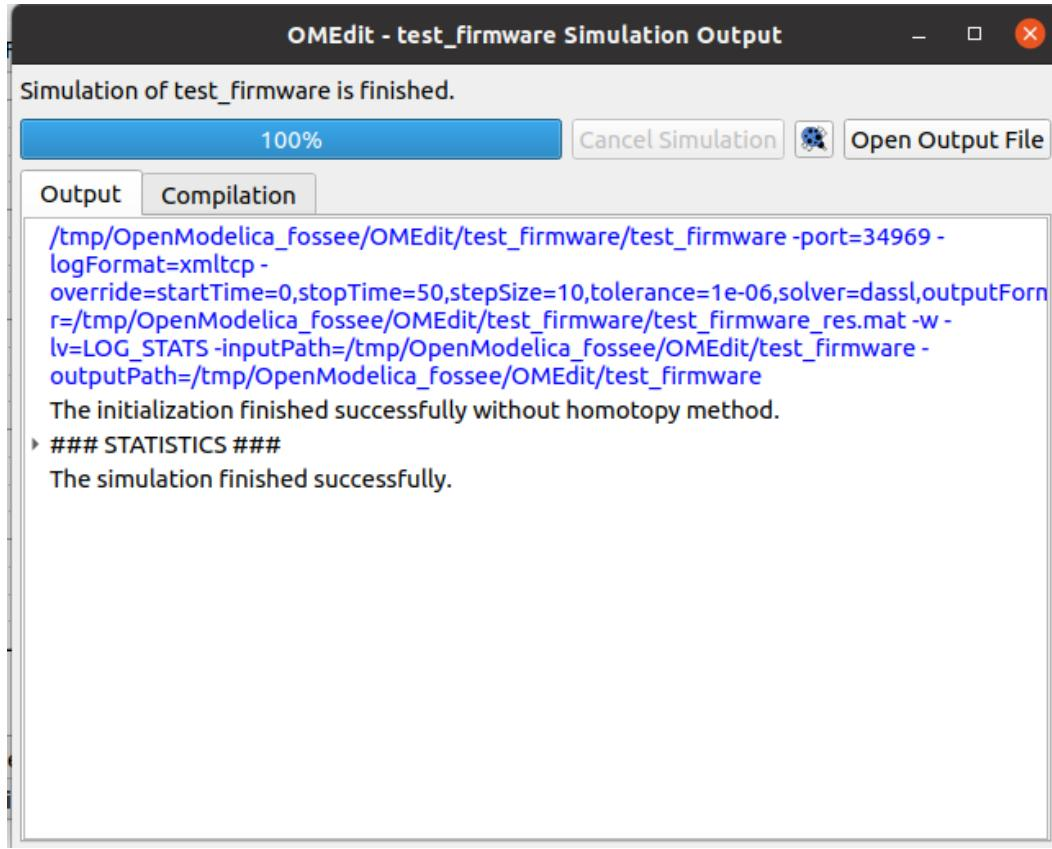

Figure 3.43: Output window of OMEdit
time specified in the model itself. As OMEdit provides an elegant user interface for simulating the models, it will open an output window the moment you click on Simulate. Fig. 3.43 shows the output window after the simulation of our model is finished. Also, we can observe that the OMEdit is now in Plotting Perspective.
As shown in Fig. 3.43, OMEdit displays the message that "The Simulation finished successfully". Had there been any error in simulating the model, we would not have received this message.
**OpenModelica Code 3.1** An OpenModelica code/model to check whether the firmware is properly installed or not. Available at Origin/tools/openmodelica/windows/test\_firmware.mo, see Footnote 2 on page 2. Locate this file inside OpenModelica-Arduino toolbox, as explained in Sec. 3.6.4. Simulate this code/-model by following the steps given in Sec. 3.6.3. If the simulation is successful, you should expect an output window in OMEdit as shown in Fig. 3.43.